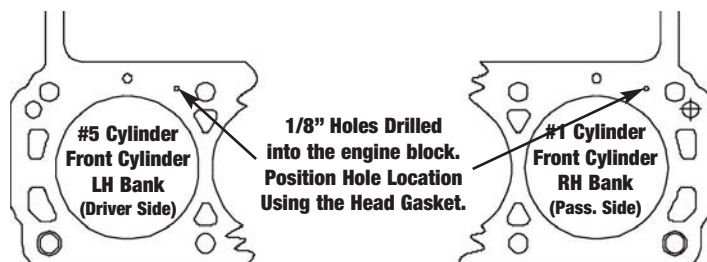

Figure 2 - Steam Hole Locations for Early 289 & 302 Blocks
1. Check the upper deck to see if you have an early or late model block (not needed with 351-W): a) Late model 289-302 blocks have the water passages located next to the head bolt location on the deck of the block (This block **will not** require drilling). b) Early 289-302 blocks will have the water passages located directly over the cylinder upper deck area and will require drilling 1/8" steam holes as seen in Figure 2.